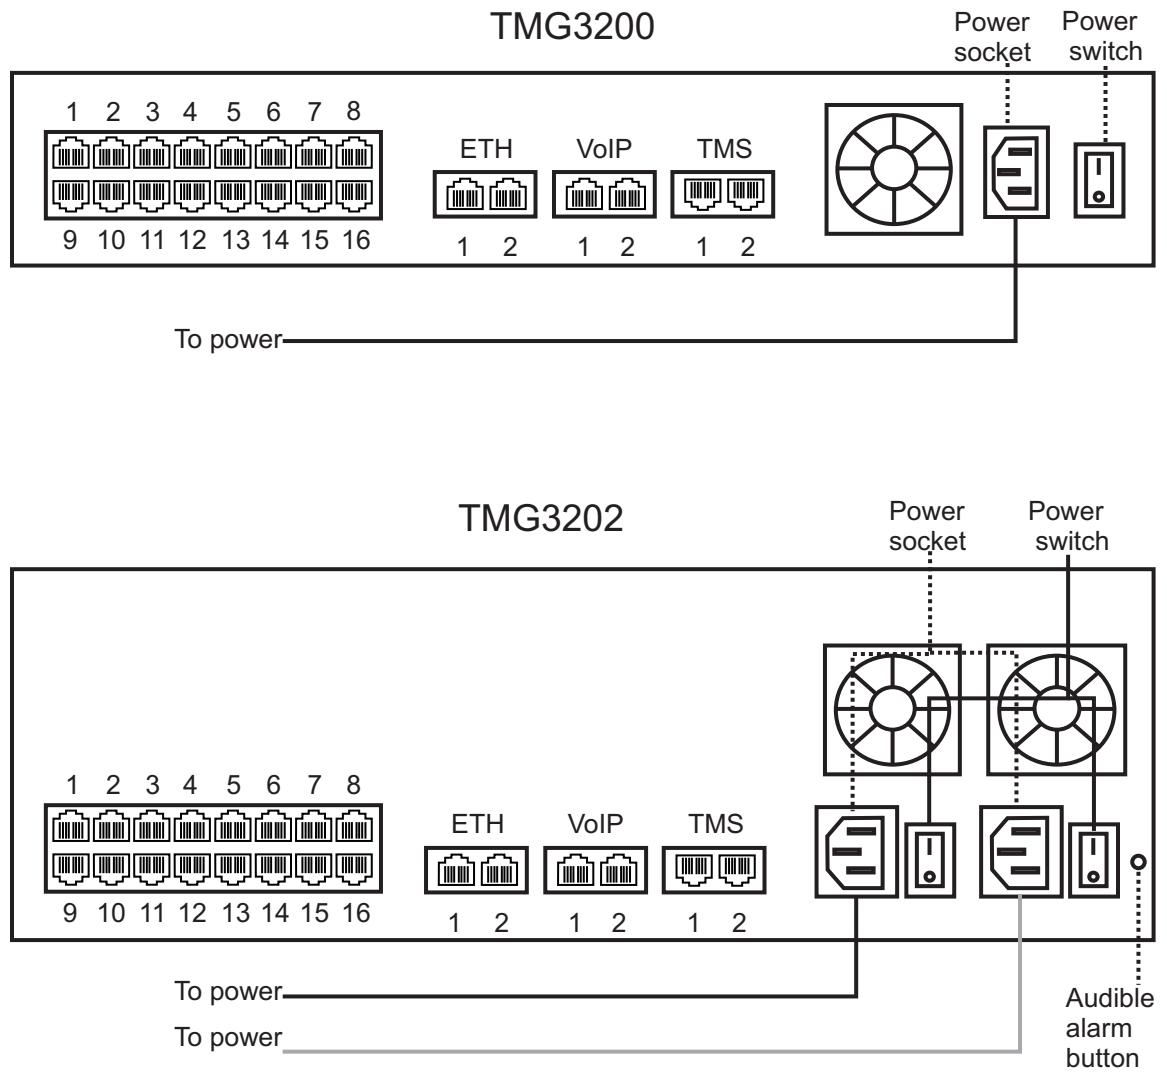

Figure 2.8 AC Power Connection
1. Connect one AC power cable between the AC connector of the TMG3200 and an AC supply. See figure 2.8 on page 18. If the TMG3200 features a second AC connector, connect an additional AC power cable between this connector and an AC power supply. If the TMG3200 features a second power supply and it is not connected to an AC power source, press the green button located at the rear of the unit to disable the audible alarm. See figure 2.8 on page 18.